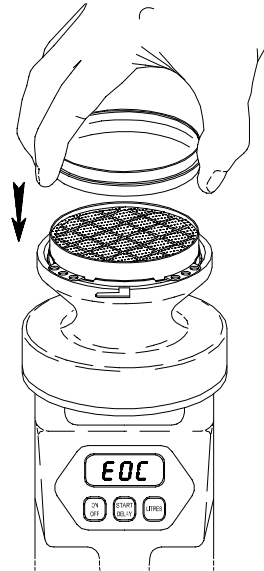

Fig. 5
7. When the display indicates EOC, unlock the sieve, remove it, and put the lid back on the cassette (Fig. 5).